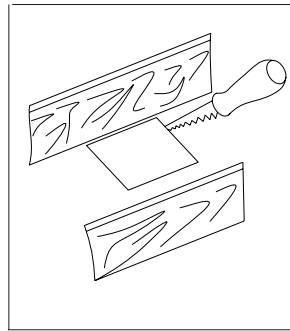

Fig.8
3. Set housing aside and cut ceiling opening slightly larger than marked.(Fig.8)